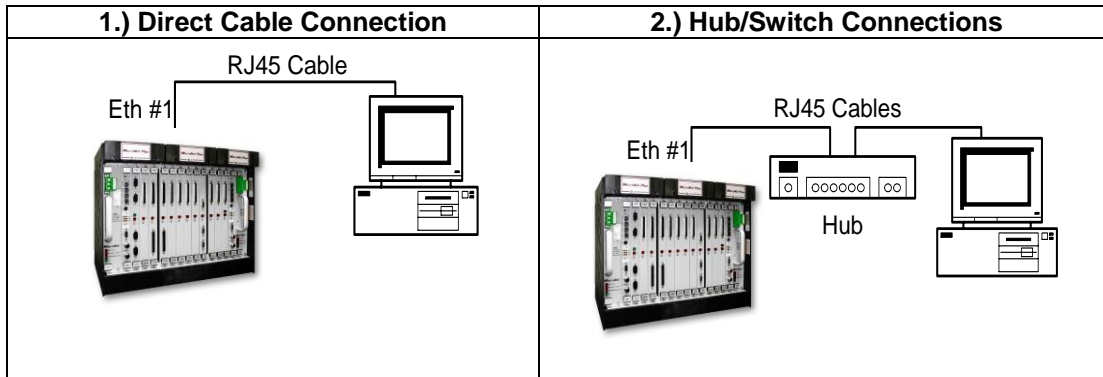

Figure 2-2. Network Cable Connections
To avoid IP address conflicts on your network, isolate the control and the PC that you will be using for setting up the control from the network. Figure 2-2 shows examples of two recommended methods.
3. Connect as shown in Figure 2-2 and power up the Woodward control.